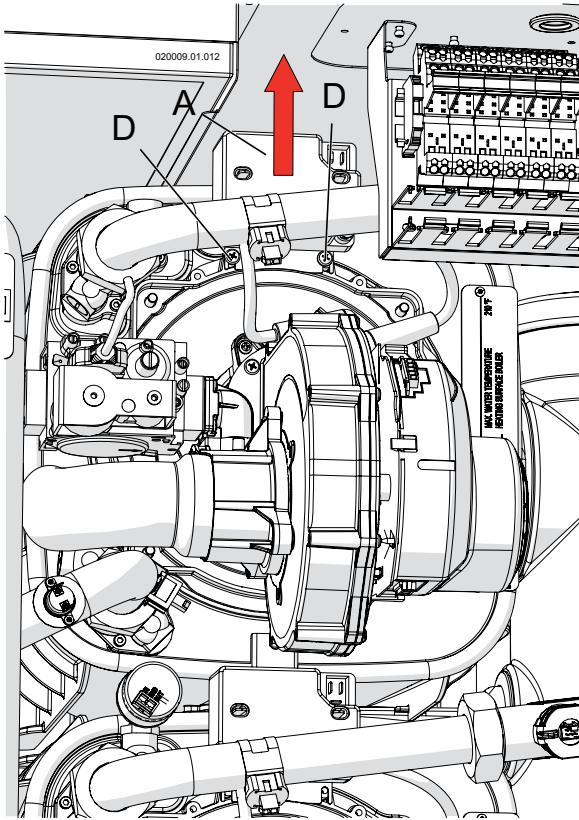

Figure 15-3 Remove the spark generator
3. loosen screws "D" (Figure 15-3) and move up the spark generator "A" (Figure 15-3);